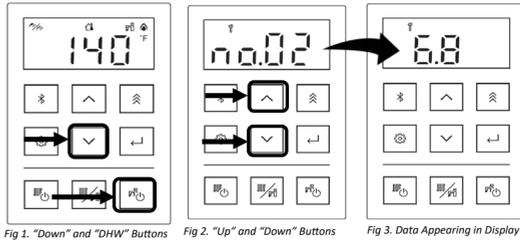

Fig 1. "Down" and "DHW" Buttons Fig 2. "Up" and "Down" Buttons Fig 3. Data Appearing in Display
- Press and hold the **▼** (Down) button for two seconds (Fig 1).
- While holding the **▼** (Down) button, press and hold the **▶** (Domestic Hot Water) (DHW) button (hold both buttons at the same time) (Fig 1).